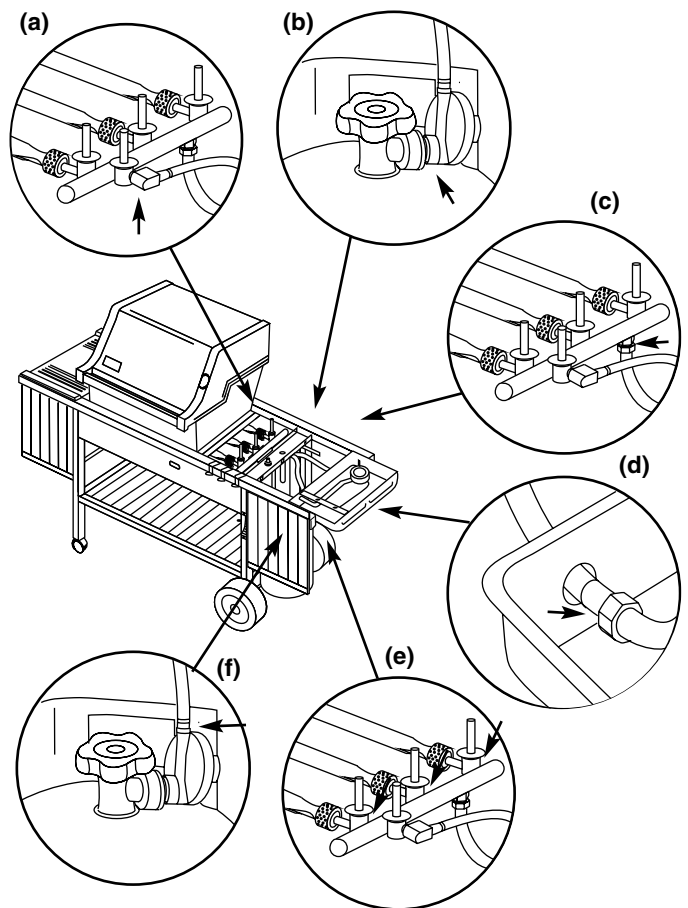

Figure 10
- Hose to manifold connection. Figure 10 (a).
- Regulator to tank connection. Figure 10 (b).
- Manifold to side burner hose connection. Figure 10 (c).
d) Side burner hose to side burner connection. Figure 10 (d).
e) Valves to manifold connections. Figure 10 (e).
f) Hose to regulator connection. Figure 10 (f).